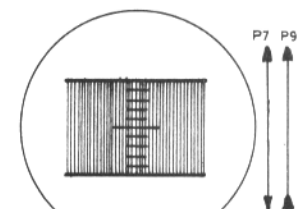

FIG 12
- 15- Tune P7 and P9 to center MARK and SPACE to the zero line. P7 calibrate in amplitude and P9 the symmetry? (fig. 12).